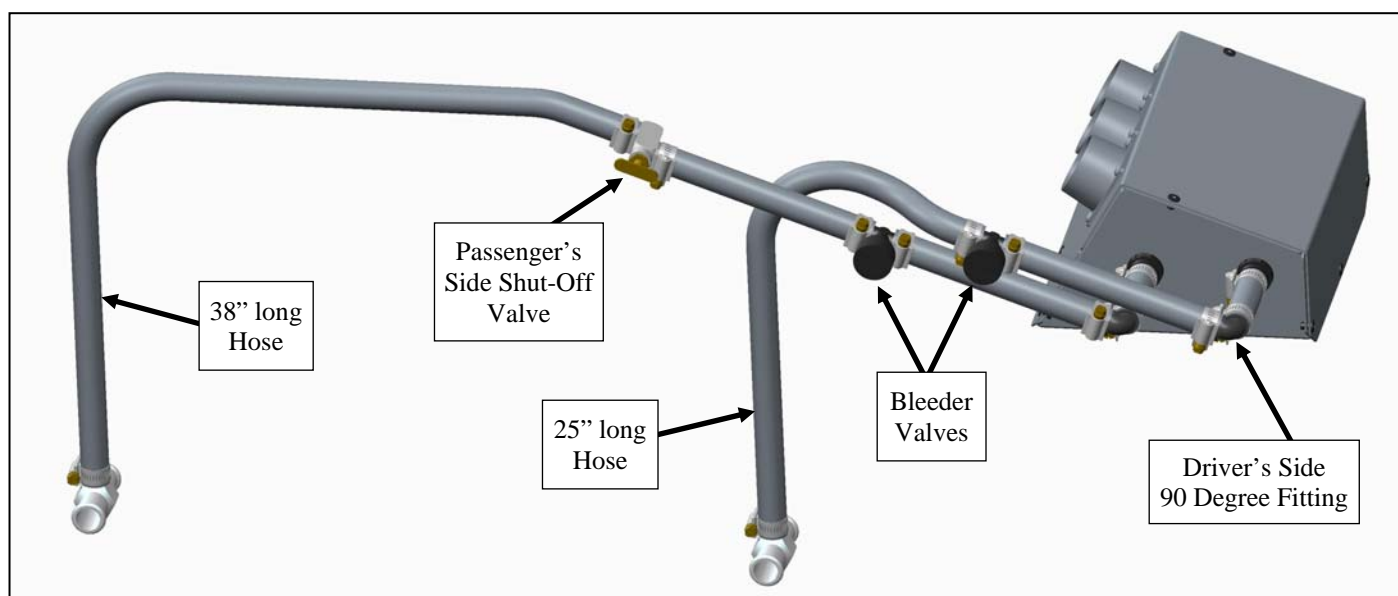

FIGURE 2.1 (Heater hoses)
Note: Use Figure 2.1 as a guide for the following steps
2. Install 90° fittings onto the previously installed heater hose lengths. Orient as shown in Figure 2.1, secure each with 1" hose clamps.